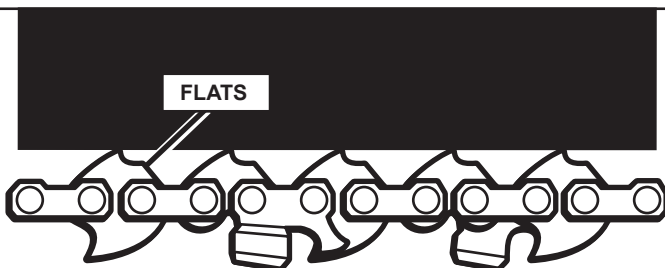

Fig. 14
- Chain must be retensioned whenever the flats on the drive links hang out of the bar groove as shown in Fig. 14.